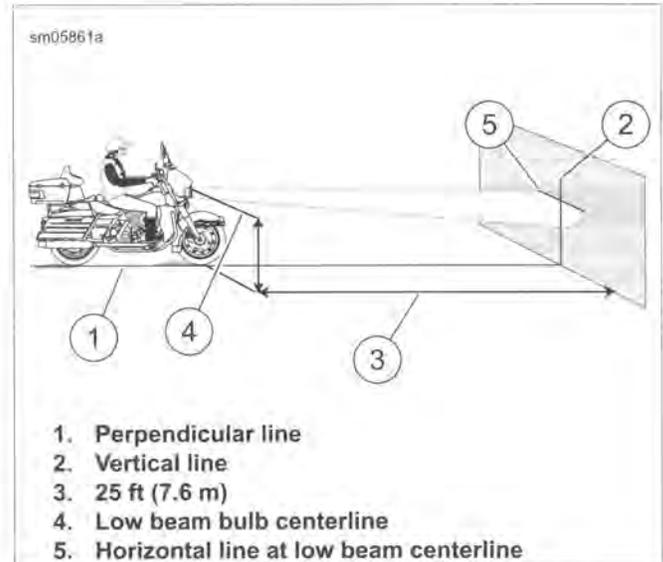

Figure 1-50. Headlamp Alignment: LED Type
- b. **LED:** See Figure 1-50. At **low beam** centerline.